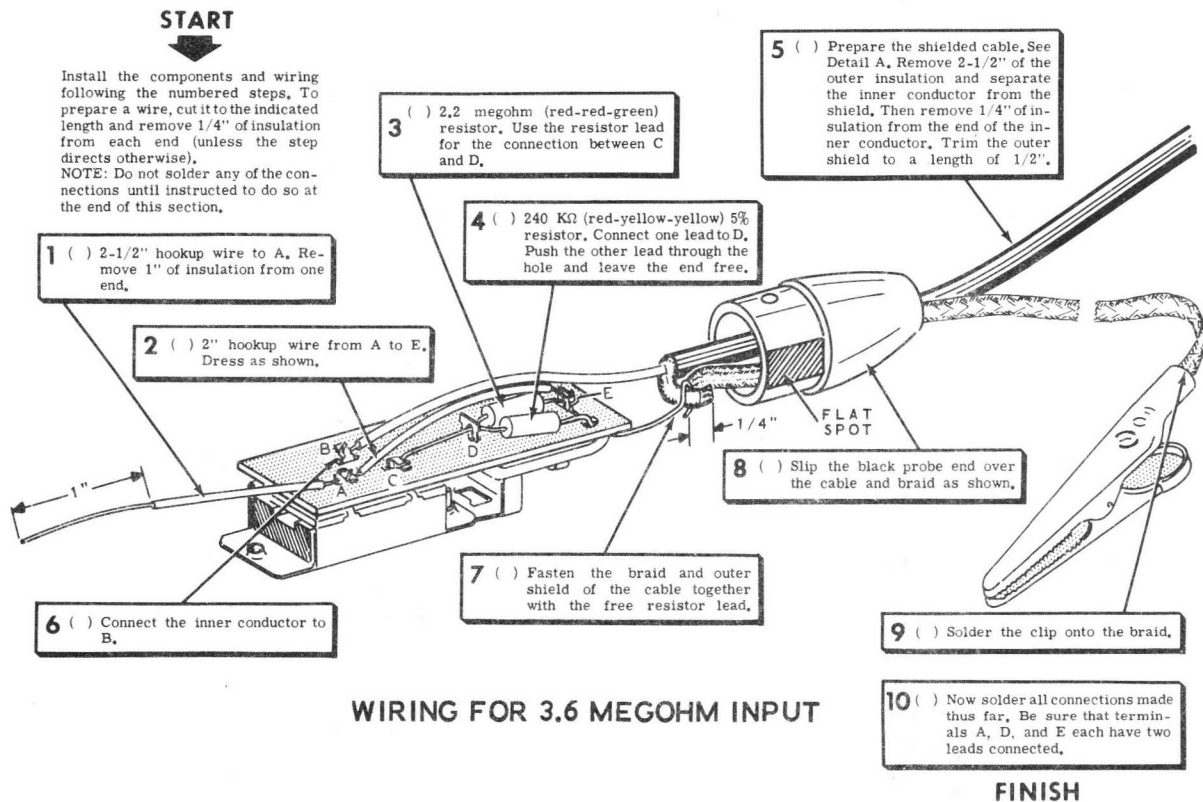
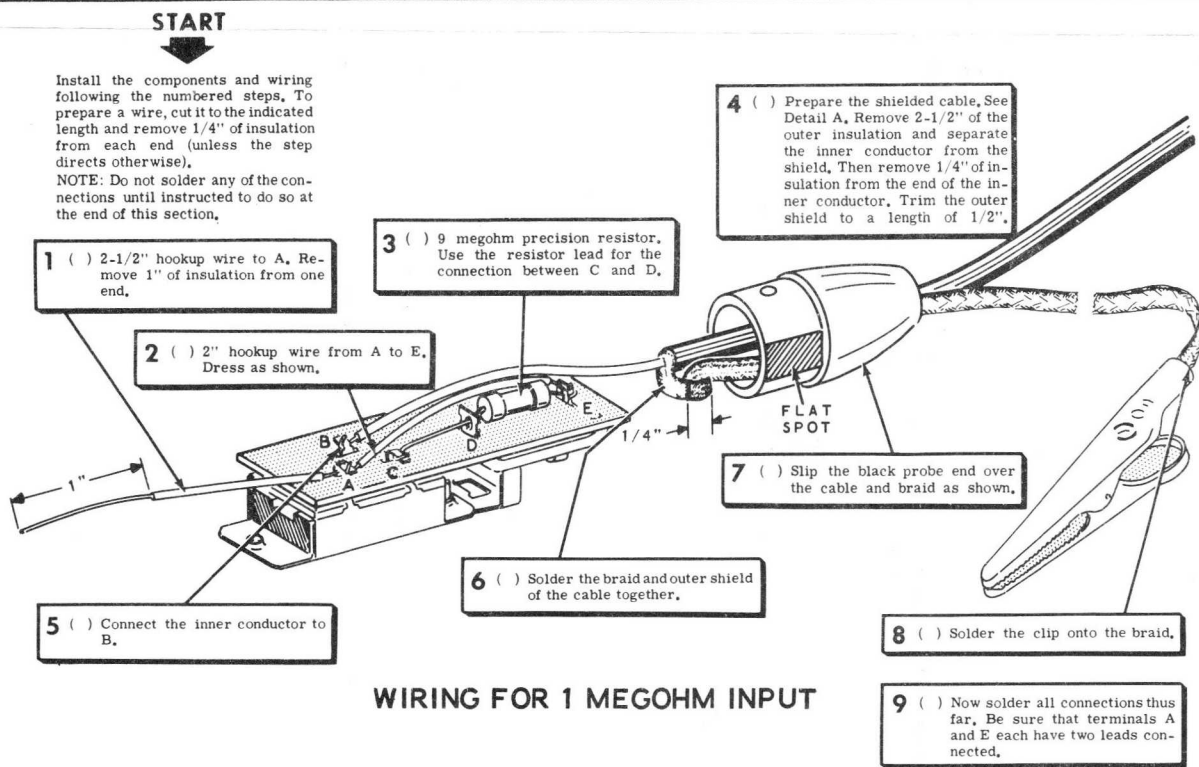

Figure 2
Figure 3
NOTE: If the Probe is to be used with an oscilloscope that has a 3.6 megohm input impedance, such as the Heathkit Model IO-12, follow the steps on Figure 2. If the Probe is to be used with an oscilloscope that has a 1 megohm input impedance, such as the Heathkit Model IO-14, follow the steps on Figure 3.
- () Secure the black probe end to the probe body with two 2-56 self-tapping screws. Be sure the ends of the shielded lead and flat braid are between the black probe end and the probe body, to provide a ground connection for the probe body. The "flat spot" on the probe end will provide the necessary clearance. (Refer to Figures 2, 3, and 4.)